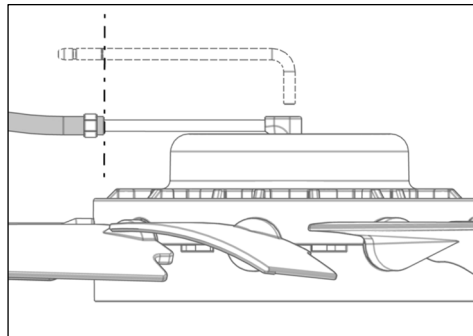

Fig. 18
- 9) Slide the pressure hose over the air intake tube up to the mark (25 mm / 0.984") (Fig. 18).